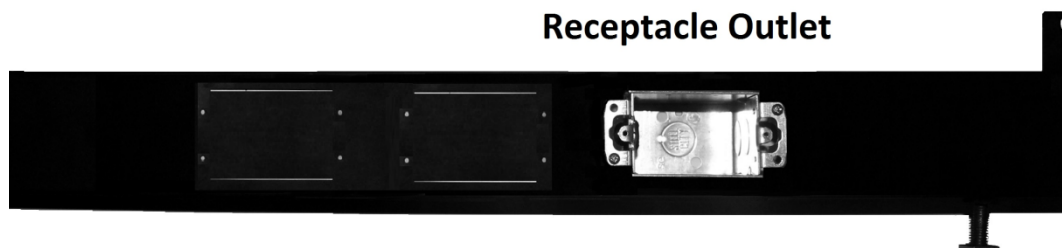

Figure 5 – Junction Box Installed
Step 4 — Insert "Receptacle" junction box into subbase hole "A" and secure with factory supplied screws as shown in figure 5.